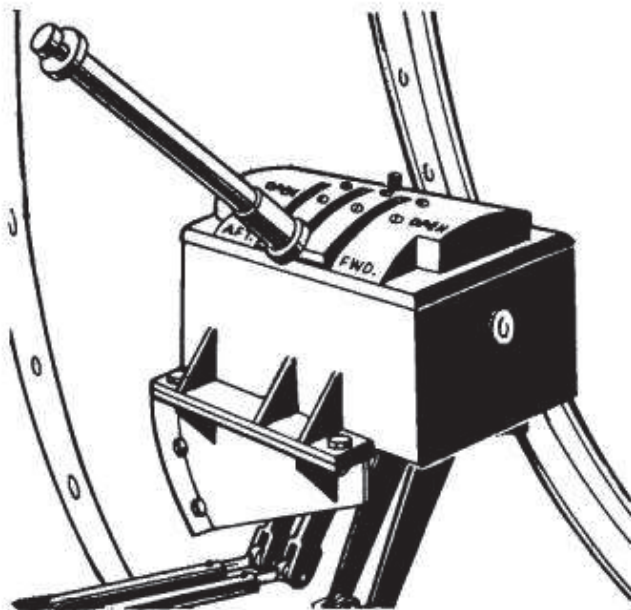

Figure 39 — Bomb Bay Door Selector Handle
- (9) Check to see that the bomb bay door selector handle is in the "CLOSED" position (bombardier's compartment). (See figure 39.)